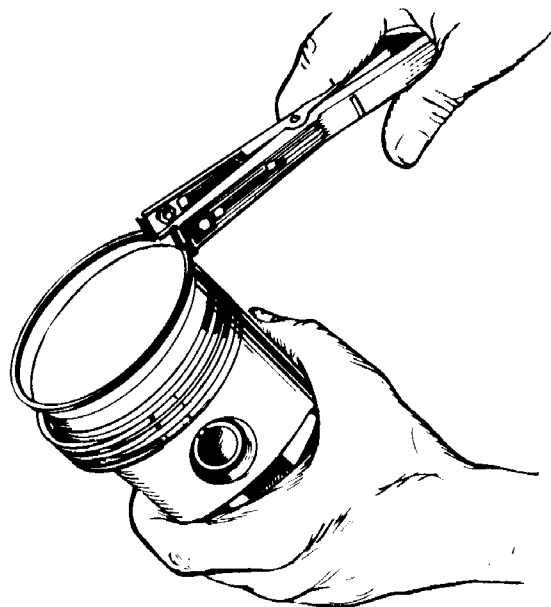

FIGURE 38. REMOVING PISTON RINGS
5. Remove the piston rings from the piston with a piston ring spreader as shown in Figure 38. Remove the piston pin retainer and push the piston pin out.